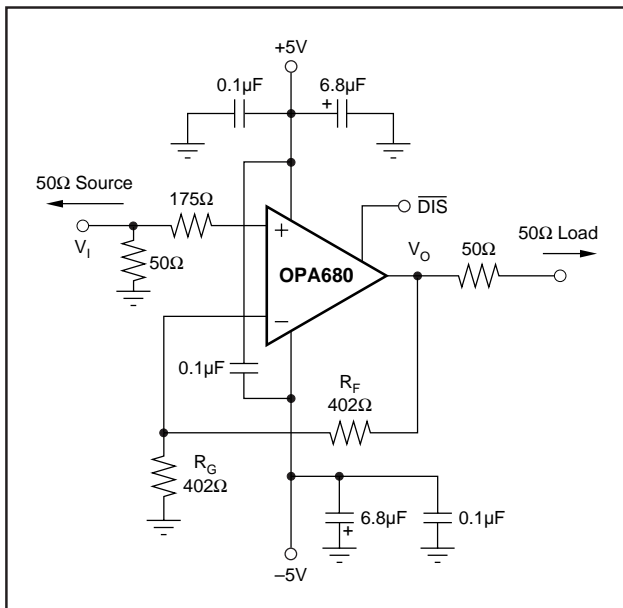
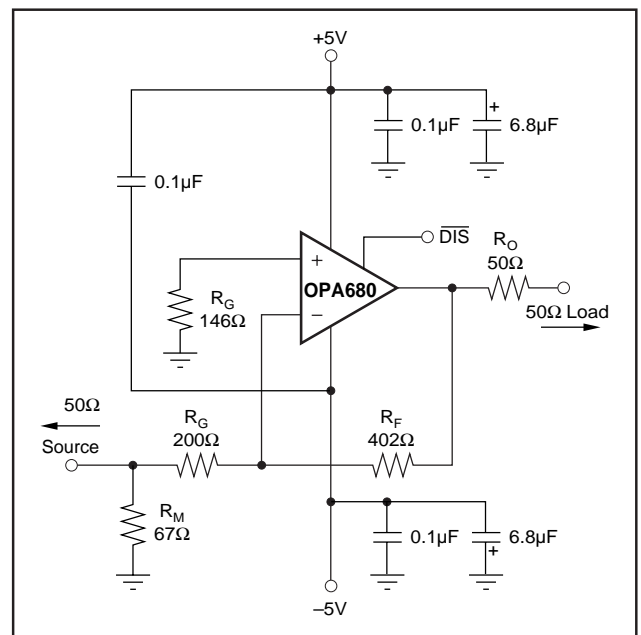

FIGURE 1. DC-Coupled, G = +2, Bipolar Supply, Specification and Test Circuit.
FIGURE 8. Gain of -2 Example Circuit.
At $T_A = +25^\circ C$, $G = +2$, $R_F = 402\Omega$, and $R_L = 100\Omega$, unless otherwise noted. See Figure 1.
Figure 1 shows the DC-coupled, gain of +2, dual power supply circuit configuration used as the basis of the ±5V Specifications and Typical Performance Curves. For test purposes, the input impedance is set to 50Ω with a resistor to ground and the output impedance is set to 50Ω with a series output resistor. Voltage swings reported in the specifications are taken directly at the input and output pins, while output powers (dBm) are at the matched 50Ω load. For the circuit of Figure 1, the total effective load will be 100Ω || 804Ω. The disable control line is typically left open to guarantee normal amplifier operation. Two optional components are included in Figure 1. An additional resistor (175Ω) is included in series with the non-inverting input. Combined with the 25Ω DC source resistance looking back towards the signal generator, this gives an input bias current cancelling resistance that
A good rule of thumb is to target the parallel combination of R_F and R_G (Figure 1) to be less than approximately 300 Ω . The combined impedance $R_F \parallel R_G$ interacts with the inverting input capacitance, placing an additional pole in the feedback network and thus, a zero in the forward response. Assuming a 2pF total parasitic on the inverting node, holding $R_F \parallel R_G < 300\Omega$ will keep this pole above 250MHz. By itself, this constraint implies that the feedback resistor R_F can increase to several k Ω at high gains. This is acceptable as long as the pole formed by R_F and any parasitic capacitance appearing in parallel is kept out of the frequency range of interest.
Voltage feedback op amps exhibit decreasing closed-loop bandwidth as the signal gain is increased. In theory, this relationship is described by the Gain Bandwidth Product (GBP) shown in the specifications. Ideally, dividing GBP by the non-inverting signal gain (also called the Noise Gain, or NG) will predict the closed-loop bandwidth. In practice, this only holds true when the phase margin approaches 90°, as it does in high gain configurations. At low gains (increased feedback factors), most amplifiers will exhibit a more complex response with lower phase margin. The OPA680 is compensated to give a slightly peaked response in a non-inverting gain of 2 (Figure 1). This results in a typical gain of +2 bandwidth of 220MHz, far exceeding that predicted by dividing the 300MHz GBP by 2. Increasing the gain will cause the phase margin to approach 90° and the bandwidth to more closely approach the predicted value of (GBP/NG). At a gain of +10, the 30MHz bandwidth shown in the Typical Specifications agrees with that predicted using the simple formula and the typical GBP of 300MHz.
Frequency response in a gain of +2 may be modified to achieve exceptional flatness simply by increasing the noise gain to 2.5. One way to do this, without affecting the +2 signal gain, is to add an 804 Ω resistor across the two inputs in the circuit of Figure 1. A similar technique may be used
Since the OPA680 is a general purpose, wideband voltage feedback op amp, all of the familiar op amp application circuits are available to the designer. Inverting operation is one of the more common requirements and offers several performance benefits. Figure 8 shows a typical inverting configuration where the I/O impedances and signal gain from Figure 1 are retained in an inverting circuit configuration.
amplifier output. For an inverting gain of 2, setting R_G to 50Ω for input matching eliminates the need for R_M but requires a 100Ω feedback resistor. This has the interesting advantage that the noise gain becomes equal to 2 for a 50Ω source impedance—the same as the non-inverting circuits considered above. However, the amplifier output will now see the 100Ω feedback resistor in parallel with the external load. In general, the feedback resistor should be limited to the 200Ω to $1.5k\Omega$ range. In this case, it is preferable to increase both the R_F and R_G values as shown in Figure 8, and then achieve the input matching impedance with a third resistor (R_M) to ground. The total input impedance becomes the parallel combination of R_G and R_M .
The second major consideration, touched on in the previous paragraph, is that the signal source impedance becomes part of the noise gain equation and hence influences the bandwidth. For the example in Figure 8, the R_M value combines in parallel with the external 50Ω source impedance, yielding an effective driving impedance of $50\Omega \parallel 67\Omega = 28.6\Omega$. This impedance is added in series with R_G for calculating the noise gain (NG). The resultant NG is 2.8 for Figure 8, as opposed to only 2 if R_M could be eliminated as discussed above. The bandwidth will therefore be slightly lower for the gain of -2 circuit of Figure 8 than for the gain of $+2$ circuit of Figure 1.
The third important consideration in inverting amplifier design is setting the bias current cancellation resistor on the non-inverting input (R_B). If this resistor is set equal to the total DC resistance looking out of the inverting node, the output DC error, due to the input bias currents, will be reduced to (Input Offset Current) $\cdot R_F$. If the 50Ω source impedance is DC-coupled in Figure 8, the total resistance to ground on the inverting input will be 228Ω . Combining this in parallel with the feedback resistor gives the $R_B = 146\Omega$ used in this example. To reduce the additional high frequency noise introduced by this resistor, it is sometimes bypassed with a capacitor. As long as $R_B < 350\Omega$, the capacitor is not required since the total noise contribution of all other terms will be less than that of the op amp's input noise voltage. As a minimum, the OPA680 requires an R_B value of 50Ω to damp out parasitic-induced peaking—a direct short to ground on the non-inverting input runs the risk of a very high frequency instability in the input stage.
The OPA680 provides good distortion performance into a 100Ω load on ±5V supplies. Relative to alternative solutions, it provides exceptional performance into lighter loads and/or operating on a single +5V supply. Generally, until the fundamental signal reaches very high frequency or power levels, the 2nd harmonic will dominate the distortion with a negligible 3rd harmonic component. Focusing then on the 2nd harmonic, increasing the load impedance improves distortion directly. Remember that the total load includes the feedback network; in the non-inverting configuration (Figure 1) this is sum of $R_F + R_G$, while in the inverting configuration, it is just R_F . Also, providing an additional supply decoupling capacitor (0.1μF) between the supply pins (for bipolar operation) improves the 2nd-order distortion slightly (3dB to 6dB).
Evaluating these two equations for the OPA680 circuit and component values shown in Figure 1 will give a total output spot noise voltage of 11nV/√Hz and a total equivalent input spot noise voltage of 5.5nV/√Hz. This is including the noise added by the bias current cancellation resistor (175Ω) on the non-inverting input. This total input-referred spot noise voltage is only slightly higher than the 4.8nV/√Hz specification for the op amp voltage noise alone. This will be the case
as long as the impedances appearing at each op amp input are limited to the previously recommend maximum value of 300Ω. Keeping both ($R_F \parallel R_G$) and the non-inverting input source impedance less than 300Ω will satisfy both noise and frequency response flatness considerations. Since the resistor-induced noise is relatively negligible, additional capacitive decoupling across the bias current cancellation resistor (R_B) for the inverting op amp configuration of Figure 8 is not required.
The balanced input stage of a wideband voltage feedback op amp allows good output DC accuracy in a wide variety of applications. The power supply current trim for the OPA680 gives even tighter control than comparable products. Although the high speed input stage does require relatively high input bias current (typically 14μA out of each input terminal), the close matching between them may be used to reduce the output DC error caused by this current. The total output offset voltage may be considerably reduced by matching the DC source resistances appearing at the two inputs. This reduces the output DC error due to the input bias currents to the offset current times the feedback resistor. Evaluating the configuration of Figure 1, using worst-case +25°C input offset voltage and current specifications, gives a worst-case output offset voltage equal to: – (NG = non-inverting signal gain)